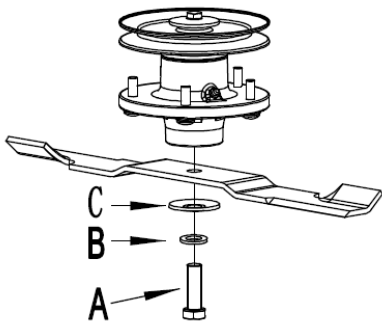

Fig. 11
Remove bolt (A), which has right-hand thread (Refer to Fig. 11), Remove lock flat washer (B), elastic washer (C), blade.
Be sure fiber washers are installed as shown(Refer to Fig. 11).
- Reinstall each mower blade with the lift of blade pointing up towards the mower deck as shown in Fig. 11. Secure with the mower blade mounting bolt and washers (B&C Fig. 11) and torque to 156-163N.m.